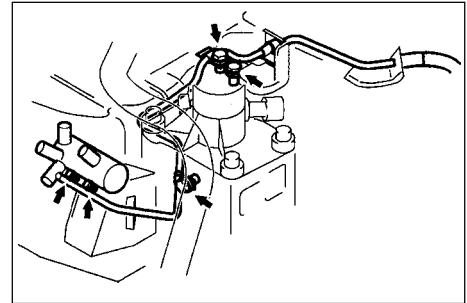

Figure 6-4
3. Remove the clutch wheel cylinder assembly (see Figure 6-4).
34. Mount the clutch wheel cylinder assembly (see Figure 6-4).